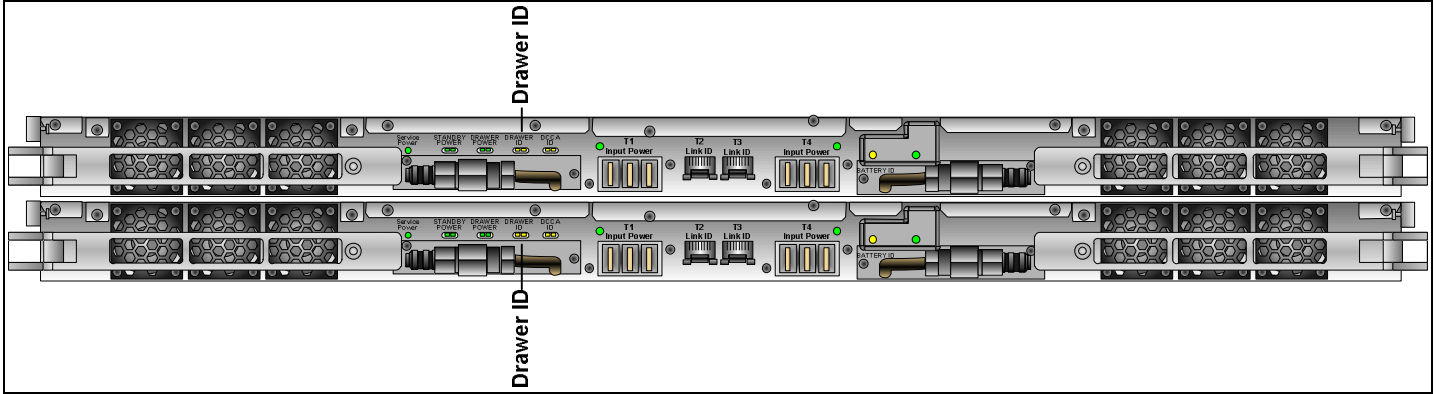
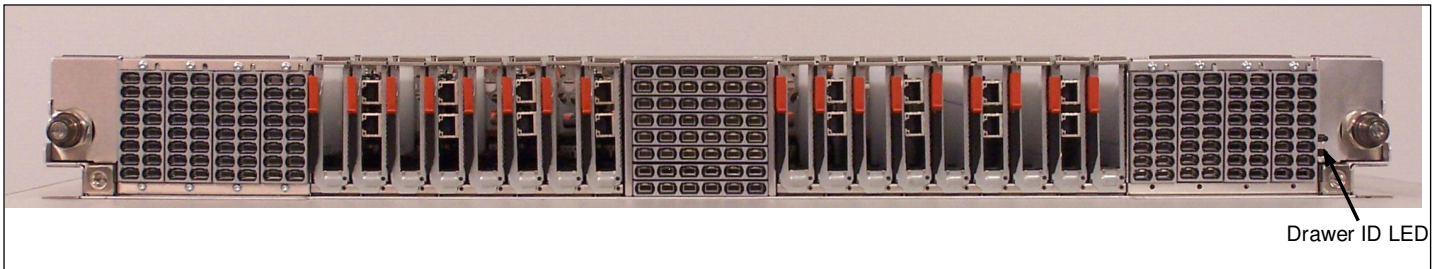

Figure 6 CEC Drawer ID – Front
Figure 7 CEC Drawer ID - Rear
**STEP 8** Locate the CEC with the UNVSA requiring service. The CEC Drawer Identify LEDs (see Figure 6 and Figure 7) will be flashing. If the LEDs are not flashing, verify the FRU via MTMS (machine type model serial number).